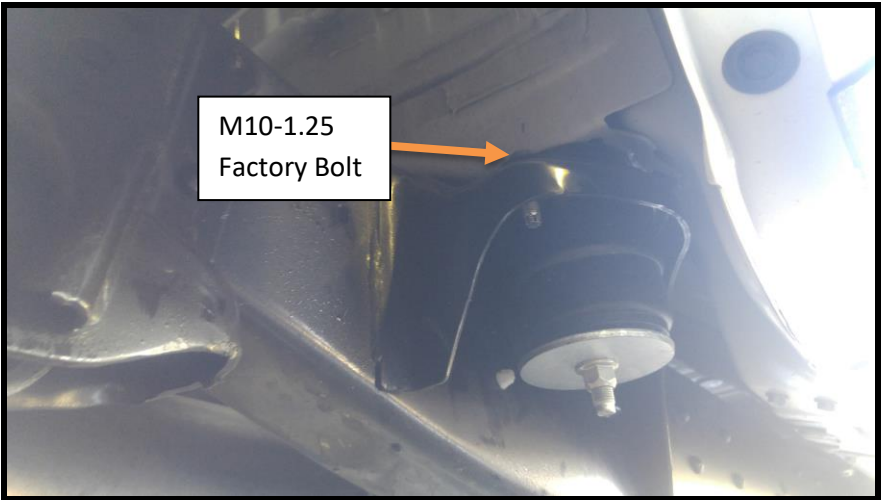

Figure 1.1 (Passenger Side)
- Loosen and remove the top rear-most M10-1.25 factory bolt in the cab mount as shown in figure 1.1 and 1.2.